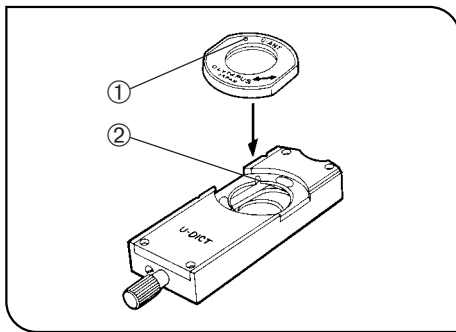

Fig. 61
3 Attaching the Analyzer and DIC Slider (Figs. 61 to 63)
2. Align the index ① of the U-DICT analyzer and the positioning groove ② of the U-DICT DIC slider and drop the analyzer into the analyzer mount of the DIC slider. (Fig. 61)
3. Hold the U-DICT ③ so that the side with indication faces down, insert it into the revolving nosepiece, and tighten the clamping knob ④.